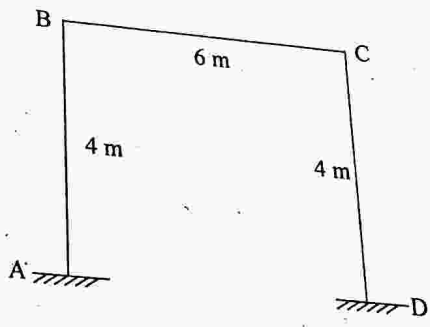

Fig. 10(B)
10. (A) Derive the element/member Stiffness matrix for plane frame member. 7
(B) Frame the global load matrix for the portal frame in Fig. 10 (B) accounting the effect of temperature difference. Take external temperature =  $20^{\circ}\text{C}$ , internal temperature =  $50^{\circ}\text{C}$ ,  $\alpha = 1 \times 10^{-5}/^{\circ}\text{C}$ , size of column =  $(230 \times 500)$  mm and size of beam =  $(230 \times 650)$  mm.